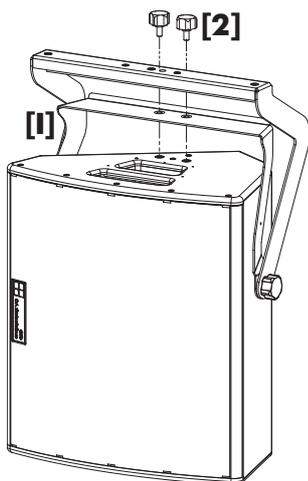

Fig. 5: Attaching the Z5056 M4 Flying bracket to the cabinet
1. Position the cabinet as shown in Fig. 5.